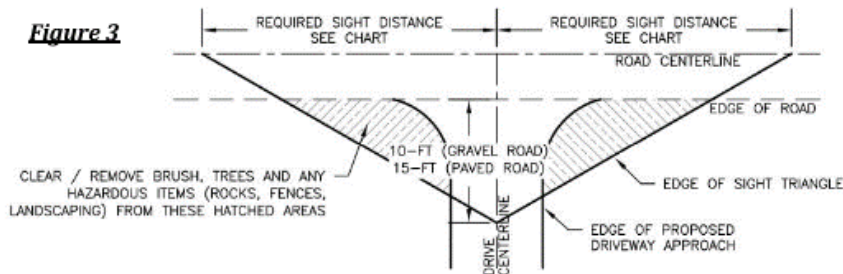

Figure 3
1. It is necessary to provide a clear line of sight distance to safely enter or exit the roadway. No obstructions within the sight distance area (shown as shaded area in **Figure 3**) shall be taller than 2 feet. This area shall remain free of all structures, trees, and light poles.